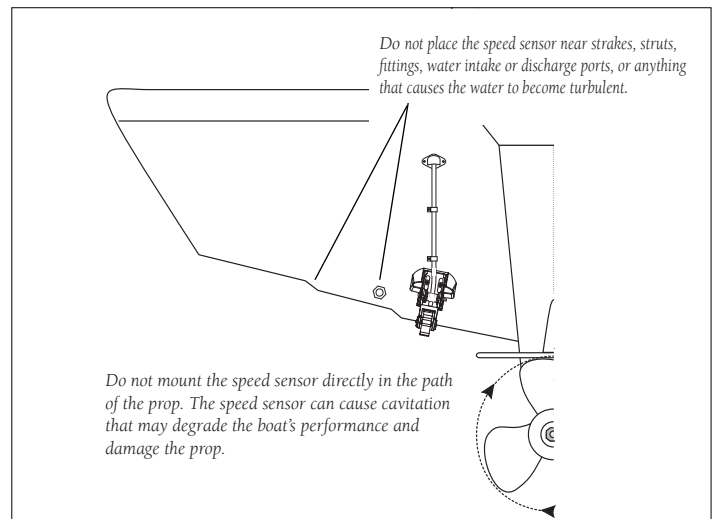

**Figure 1**
4. Place the remaining 5 mm flat washer on the exposed end and install the 10-32 lock nut finger tight (see Figure 1). The speed sensor will be tightened further after installation on the boat.